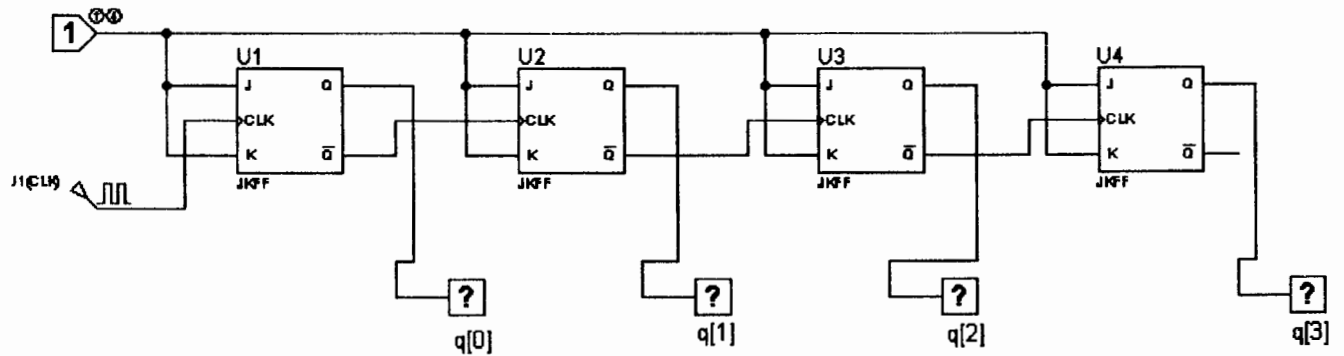

Figure 2.
5. Given Asynchronous ripple counter implemented by JK flip flops in Figure 2. (10 points)